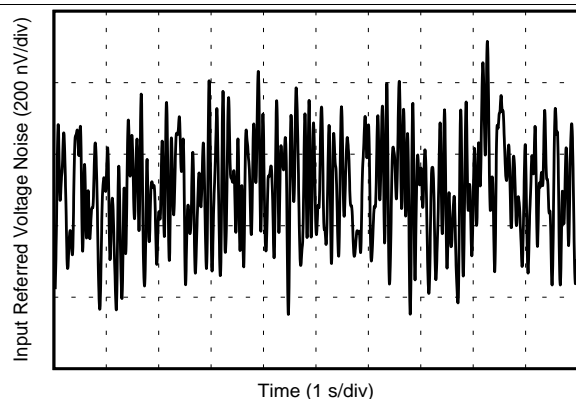

Figure 15. 0.1-Hz to 10-Hz Voltage Noise
0.1-Hz to 10-Hz Voltage Noise	Figure 15